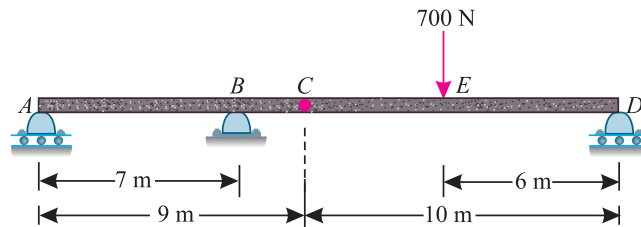

Fig. 16.4.
**Example 16.2.** Two beams AC and CD of length 9 m and 10 m respectively are hinged at C. These are supported on rollers at the left and right ends (A and D). A hinged support is provided at B, 7 m from A as shown in Fig. 16.4.